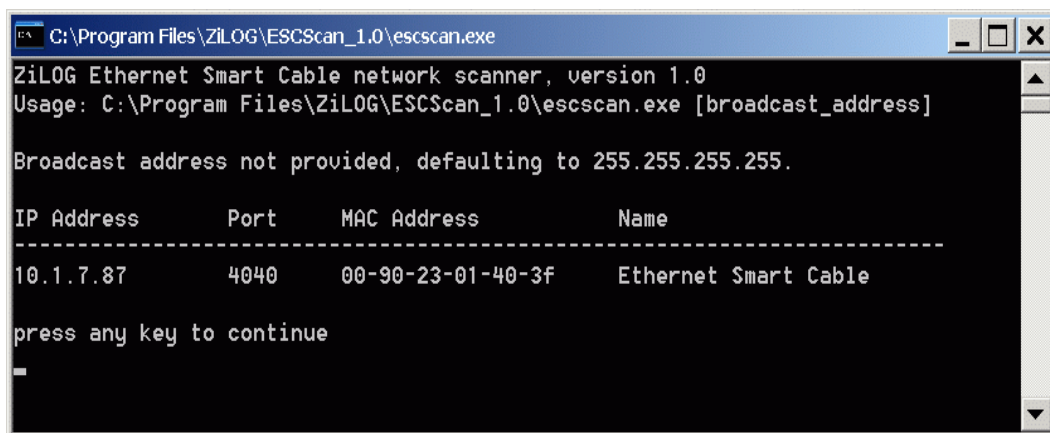

Figure 8. escscan.exe Application Screenshot
3. Run the `escscan.exe` application file from the installation directory; it will appear similar to the example screenshot shown in Figure 8.